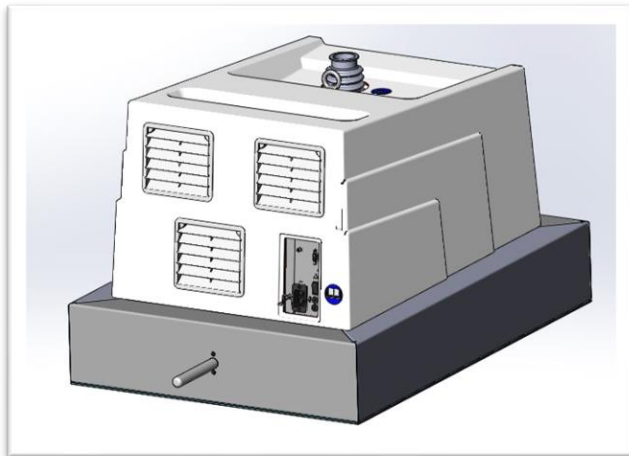

Figure 5. MS120 pump with Noise Abatement System
- 5 Install the Noise Abatement Panel, Back under the pump, as shown in figure 5: